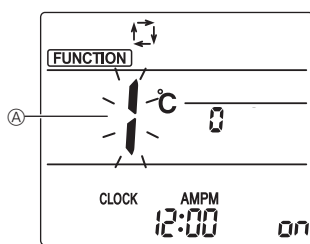

Fig. 6-10
1. Press the **STOP** button ① to stop the air conditioner.
2. Press the **MENU** button ②. The Function setting screen will be displayed and the function No. Ⓐ will blink. (Fig. 6-10) Press the **↓** button ④ to change the function No.